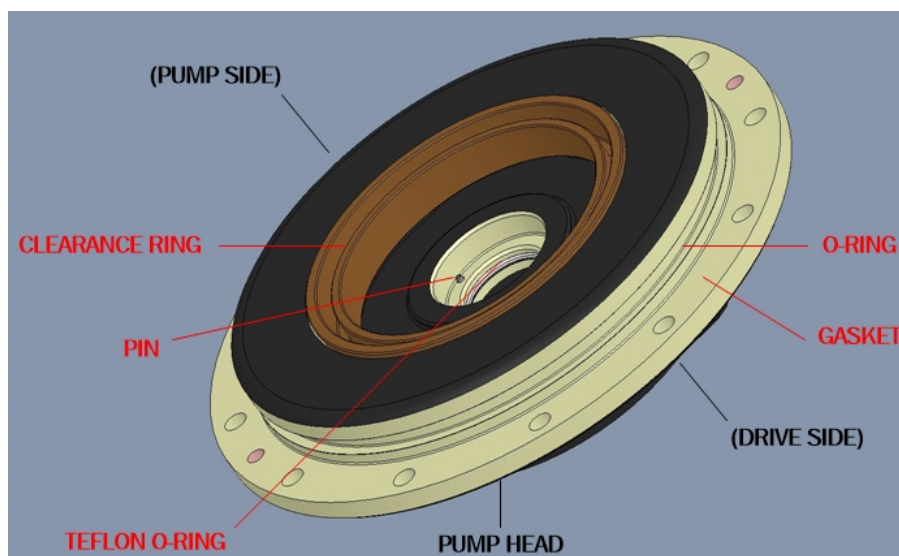

Figure 37. Pump Head (Pump Side)
1. Place pump head on stable work surface, pump side up (see Figure 37). Install following items as described below.
- a) Verify mechanical seal anti rotation pin (see Figure 37) installed in pump head. If NOT installed, perform Installation portion of RSD Mechanical Seal Pin R&R (see paragraph 5.8.4.13.2).
- b) Install pump head clearance ring (see Figure 37). (Refer to paragraph 5.8.7.2 on page 110 for instructions).
- d) Install new Teflon O-ring (see Figure 37).
- f) Install new O-ring (volute to pump head) on pump side of pump head. (See Figure 37.)
- h) Place new gasket on pump head (see Figure 37).